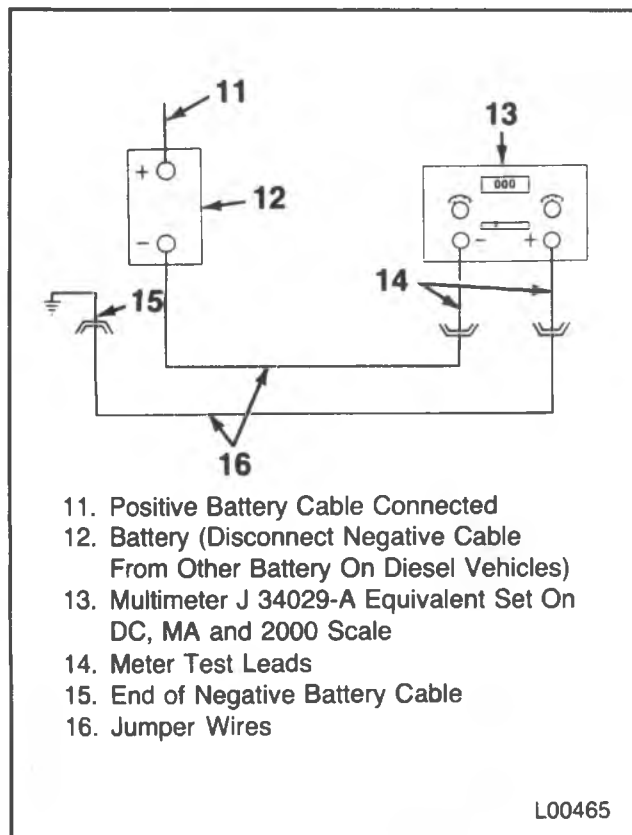

Figure 6 — Battery Drain Test Circuit
3. Clip of a jumper wire to the negative battery terminal adapter (figure 6).